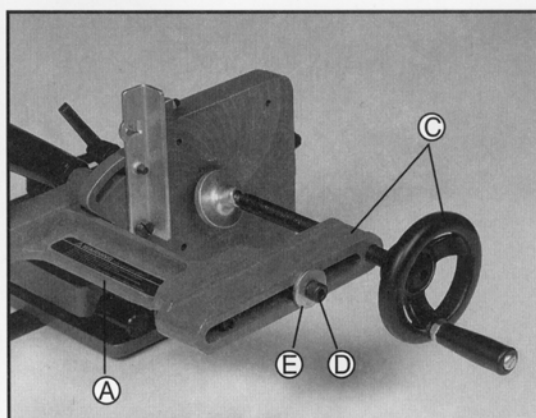

FIGURE 4
2. Fasten clamp assembly (C), figure 4, to clamp arm (A) using the M8 × 50mm socket head screw (D) and flat Washer (E), as shown.